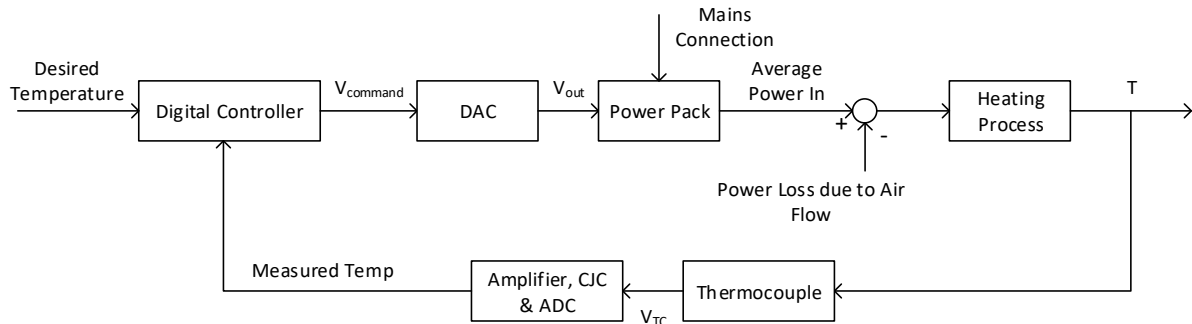

Figure 1. Block Diagram of the System
In this experiment, you will design a controller to keep a heating process at a desired temperature. Block diagram of the overall system is given in Fig. 1.
1. Redraw the block diagram in Fig. 1 showing the units of all signals. Also indicate whether a signal is digital (D) or analog (A).
2. What is our control objective? Explain what each of the following corresponds to in our system: Process Variable, Measurement Sensor, Measured Process Variable (PV), Set Point (SP), Controller Output (CO), Final Control Element (FCE), Manipulated Variable (PV), Disturbances (D).